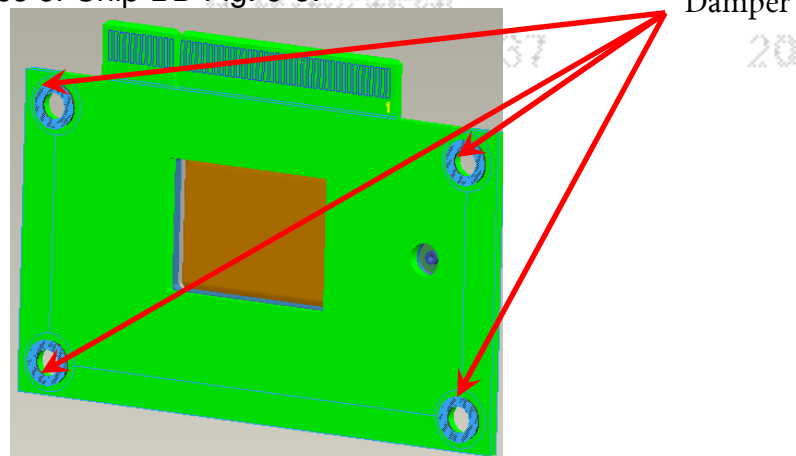

Fig. 5-5
8.4 Place Damper on the surface of Chip-BD Fig. 5-5.